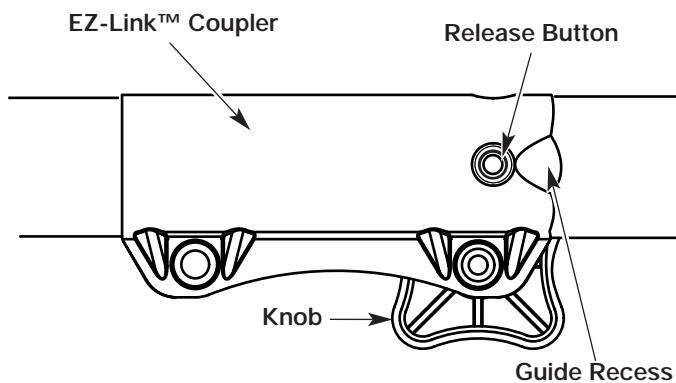

Figure 23
1. Turn the knob counterclockwise to loosen. See Figure 23.
2. Press and hold the release button. See Figure 23.
NOTE: Aligning the release button with the guide recess will help installation. See Figure 23.